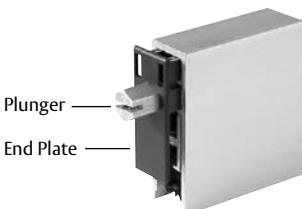
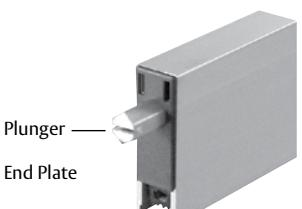

Figure 9
Figure 10
4. Next insert the plunger end plate with the hexagon hole. This pushes straight in. It also serves to prevent the plunger from rotating and changing adjustment (as shown in Figure 9 and Figure 10). If this end plate needs to be removed for readjustment, it can be removed in two ways: (1) push the drop bar towards the hinge side of the door and it will eject the end plate; (2) prying at the top of the end plate with a knife or other tool. Do not pry at the bottom. This will cause it to break.